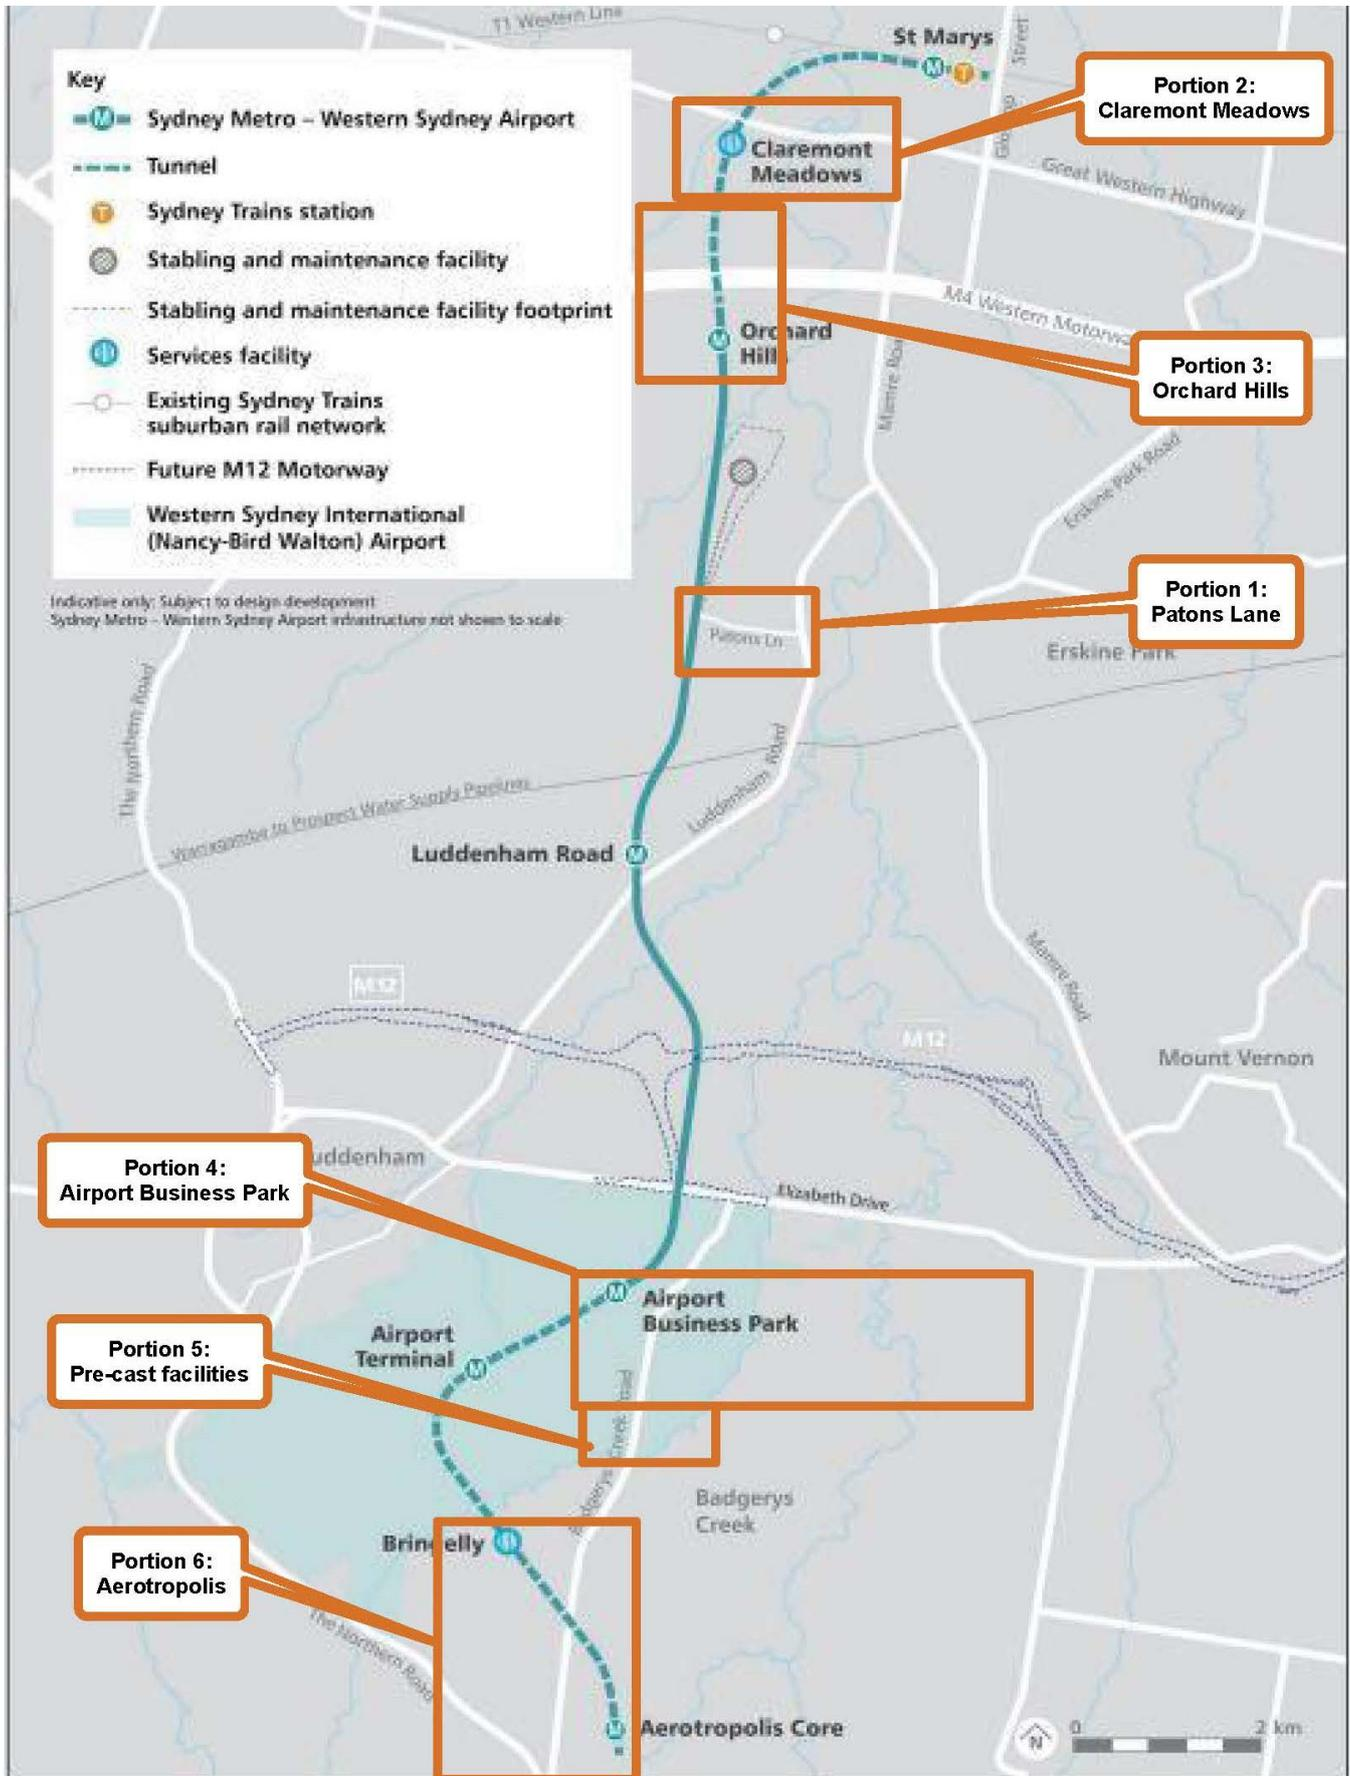

Figure 1.3 Portion 1 – Portion 6 Location overview
Refer to Figure 1.3 for location overview.
The purpose of this Overarching Construction Traffic Management Plan is to set out the principles of traffic and covers the Western Sydney Airport power enabling works only. This OCTMP shall outline the cumulative works activities across all six (6) Portions of work. Works will occur concurrently, at varying stages of the project, on all six (6) Portions. Cumulative impacts with any ongoing Sydney Metro WAS ongoing projects will be discussed in the fortnightly TCG. Map overview of the WSA area is shown in Figure 1.3.